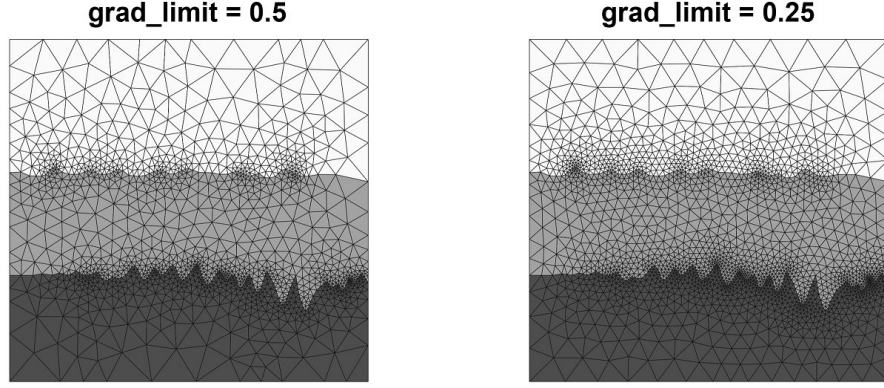

Figure 8: Effect of *Gradient-limit*
- *Gradient-limit*: A limit on the gradient of mesh-size function (Figure 8).5 Type: Float. Range:  $> 0$ . Typical value: 0.2 - 0.5.